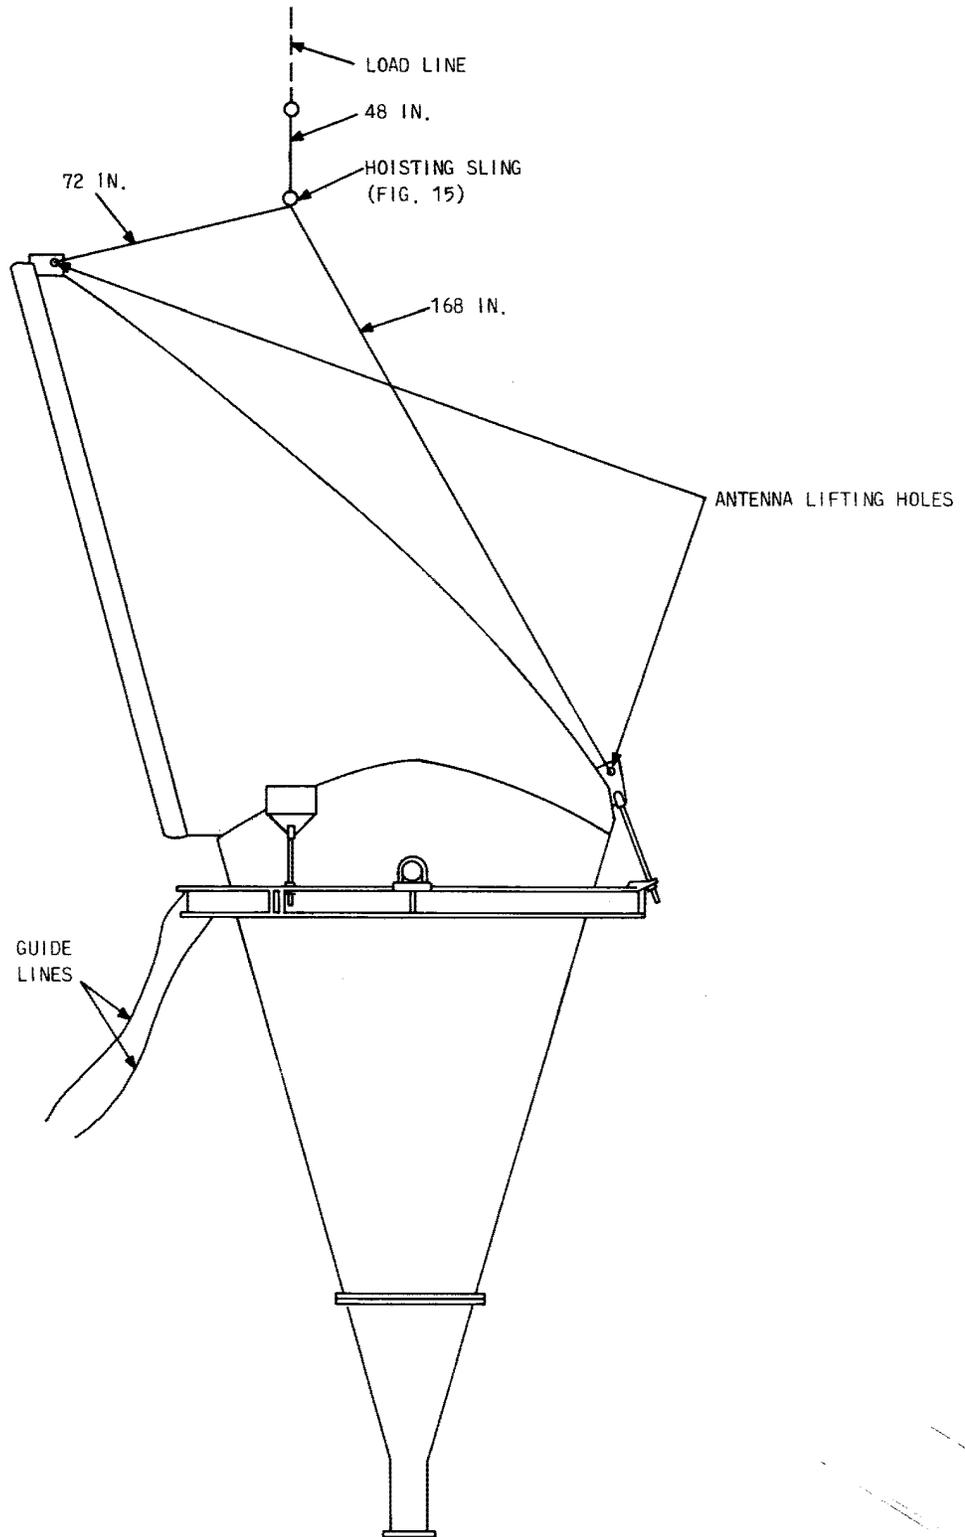

Fig. 18—Hoisting the Antenna (Vertical Position)
- (e) Hoist the antenna to the desired mounting level on the tower (Fig. 18). If the antenna is to be mounted on the lower platform of a dual-platform tower and the hoisting equipment is located on the upper platform, a tackle block assembly or a come-along may be required to pull the antenna into position.